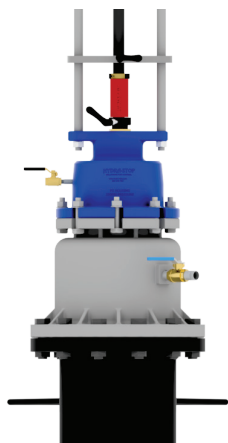

Figure 81
5.1.16 Place the 4.25" IV 250 Insertion Gauge on the insertion tool. Place one end of the insertion gauge against the packing nut assembly. Slide the stop collar towards the insertion gauge until the stop collar contacts the insertion gauge. This automatically sets the proper depth for insertion. Lock the stop collar (see Figure 81).